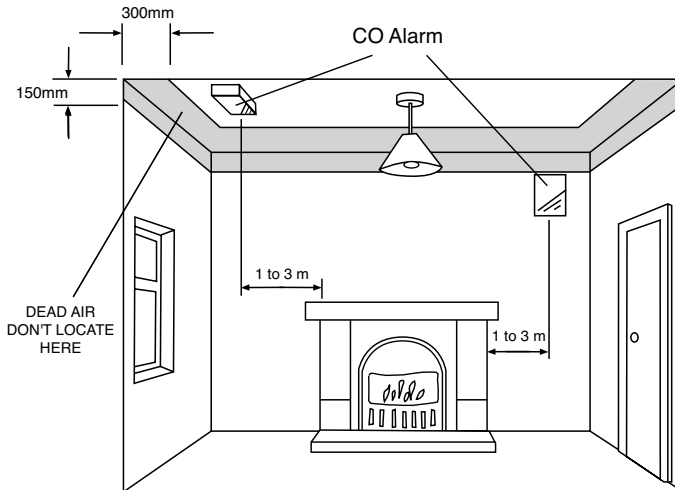

Figure 1. Location in room with a fuel burning appliance
3.3 IF LOCATING THE CO ALARM IN A ROOM WITH A FUEL BURNING APPLIANCE (see Figure 1)
The unit can be tested with CO by using one of the kits that comes with CO either in a glass phial or aerosol can. Follow the instructions on the kit but be sure to press the Test/Hush button to speed up the CO sampling **directly** after you expose the unit to the CO. It is best if possible to inject the CO gas into the gas entry holes (see *Figure 1*). When it senses the CO it will give 3 beeps and the red light will flash as per Table B. It then automatically resets to normal mode. (If unit fails to respond, press the Test/Hush button again as gas can take some seconds to enter sensor).
- (1) Disconnect the mains supply to the CO Alarm circuit at the distribution/fuse board.
- (2) Remove tamperproofing screw if fitted (see *Figure 1*).
- (3) Release catch (as shown in *Figure 1*) and slide unit off mounting plate.